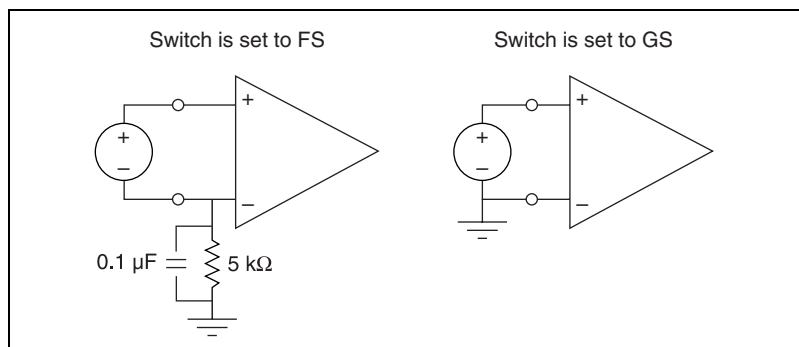

Figure 4-3. Floating Source and Grounded Source Connections
Each analog input for the DAQPad-6070E with BNCs has a switch that you set based on whether the BNC is connected to a floating source (FS) or a grounded source (GS). Figure 4-3 shows how the FS setting connects the negative terminal of the differential input to ground through a $5\text{ k}\Omega$ in parallel with $0.1\text{ }\mu\text{F}$ resistor. Set the switch to GS to allow both positive and negative terminals to float. If you are using a single-ended channel or using a differential channel connected to a grounded source, set the switch to GS. If you are using a differential channel connected to a floating source, set the switch to FS.